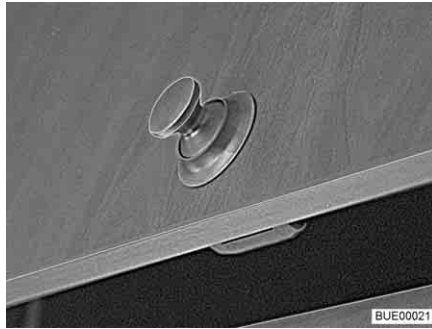
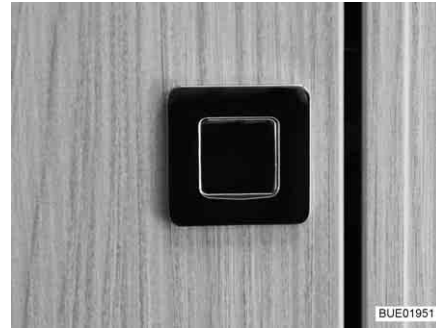

Fig. 44 Furniture flap with round push button
Fig. 45 Furniture flap with rectangular push button
- Press inner part of the lock. The push button (Fig. 44 or Fig. 45) jumps out.